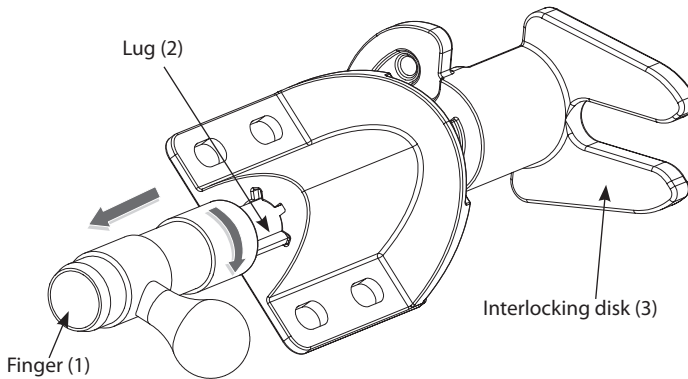

Fig.1
It is recommended to change over the locking device to permanent opened state. For this it is necessary to extract a spring loaded finger (1) from the case and turn it till lug (2) entry in one of the side grooves of the case (fig.1). Check free running of interlocking disk (3) at any position of key lock handle. The pass of locking device from permanent opened state to working state is done by finger (1) turn till it entry in central groove of the case.